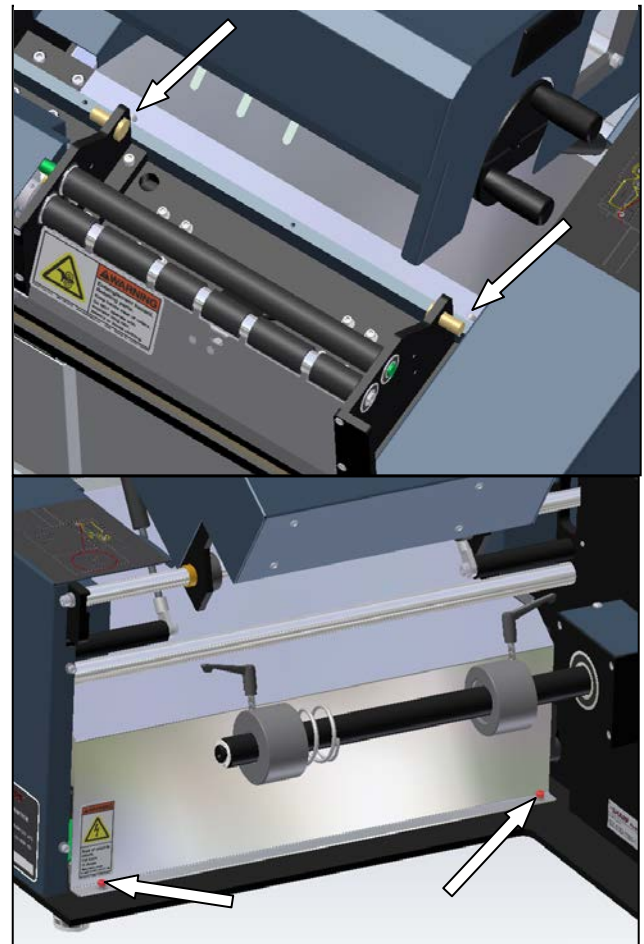

Figure 3-140. Motor Cover Screws
1. Remove the two rear screws and the two front screws from the Motor Cover (Figure 3-140).